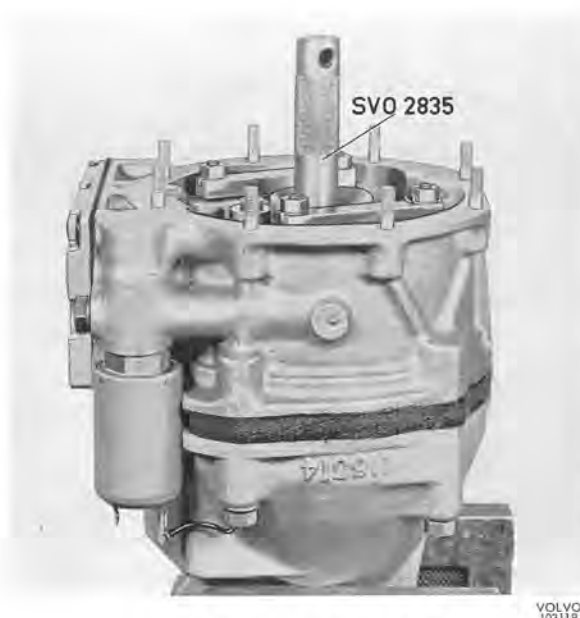

Fig. 4-59. Installing front casing
5. Install the brake ring on the front casing. Place the front casing on the rear one. Fit washers and nuts, see Fig. 4-59. Note that both the copper washers should be fitted on the upper bolts. Tighten the bolts a little at a time until they are tightened evenly all around.